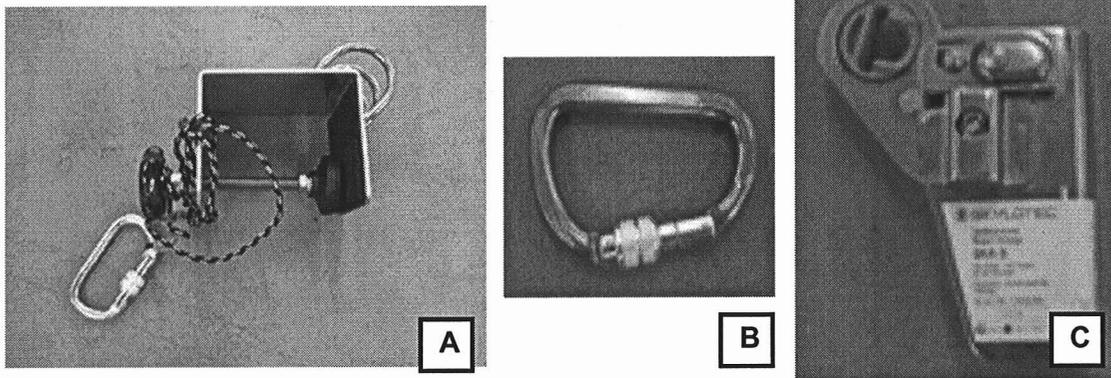

Fig. 10 Accessories for abseiling equipment
- 1 edge protection for WTs (K06 and K08) for guiding the rope over the edge of the nacelle wall, see Fig.10
- 2 snap hooks and 1 rope clamp as alternative lifting tackles, see Fig.10.